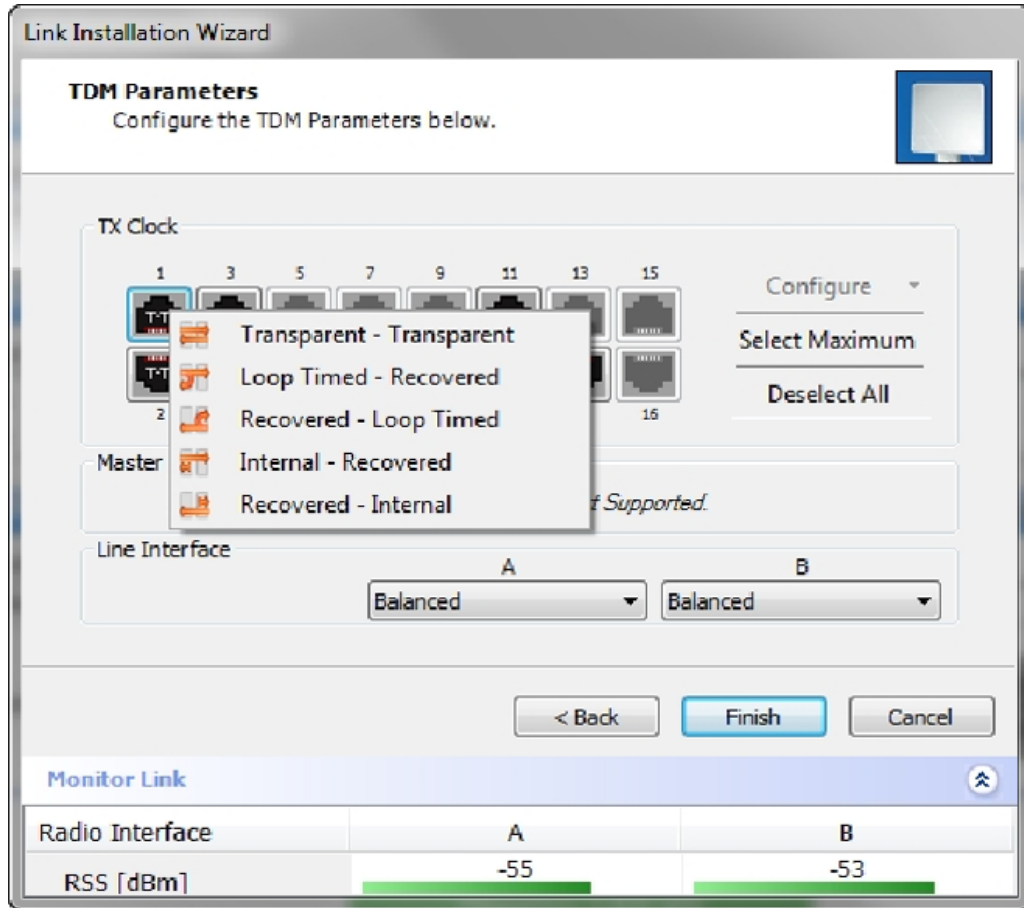

Figure 6-30: TDM Parameters Configuration (2)
- Without selecting anything, right-clicking any port will cause the appearance of the drop down list of Figure 6-30 below